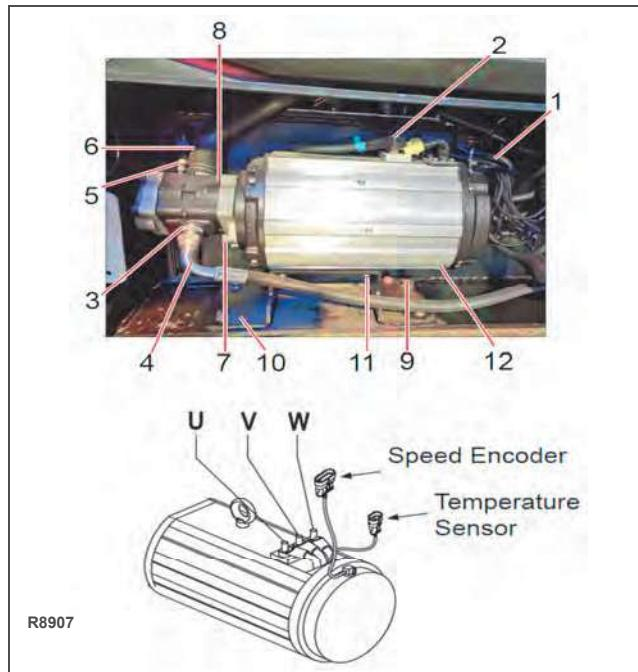

Figure 9-1 Pump and Motor Assembly
4. Disconnect the speed encoder and temperature sensor (1, Figure 9-1) on the pump motor (12) and remove the cables U, V and W (2) from the motor (12).